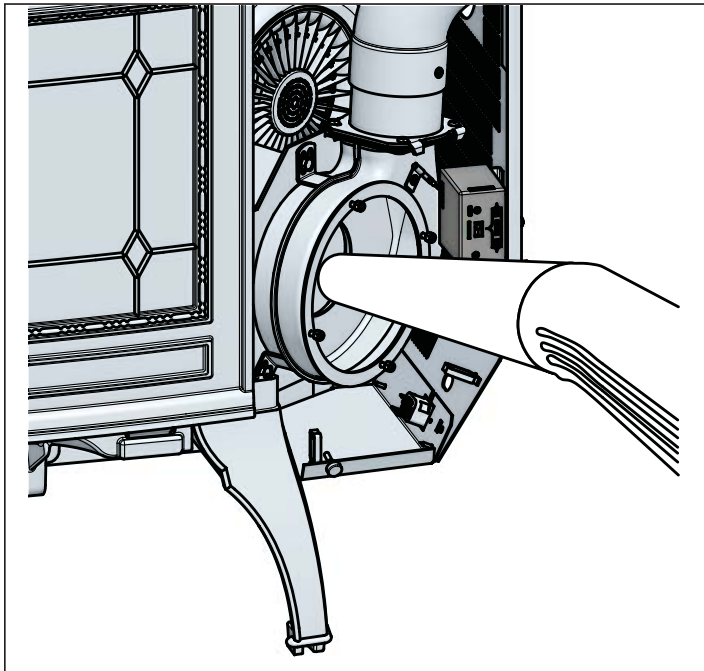

Figure 19.1
- d. Vacuum out exhaust path and housing. Figure 19.1